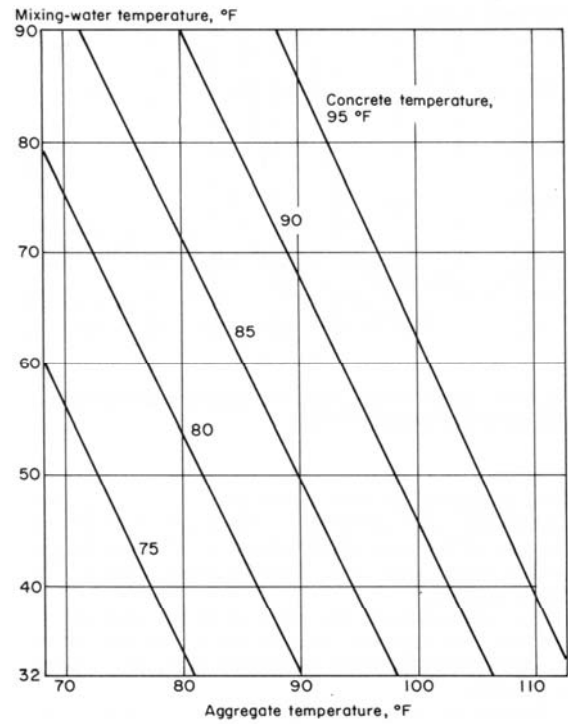

Figure 3 –Effect of ingredient temperatures on concrete temperature. Source PCA
- Substituting ice for mixing water; 25 lb increments of ice will lower concrete temperature approximately 3 F (see Figure 3)
- Water chiller (see Figure 3)
- Liquid Nitrogen (see Figure 3)